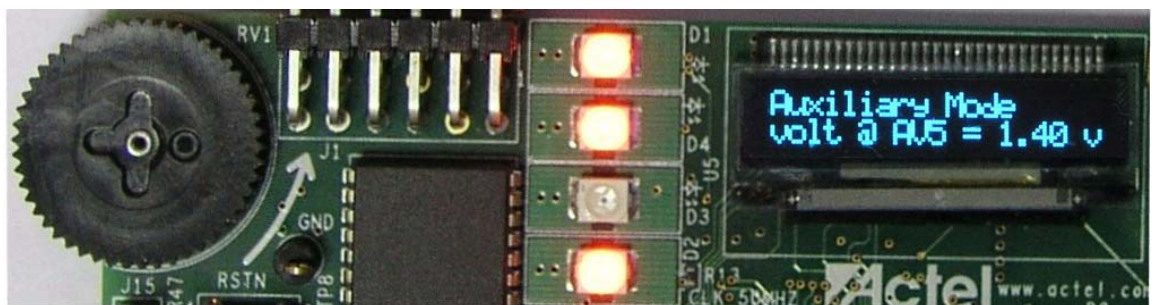

Figure 2-13 · Auxiliary mode – Voltage Measurement at AV5 Channel
- Press SW3 again to see the measured voltage at the AV5 channel on the OLED (Figure 2-13).